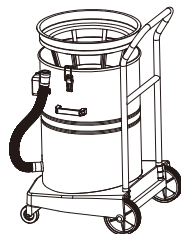

fig.1
1. Fix the fittings according to the cleaning work. If it is a dust vacuuming, the cloth filter should be fixed; if it is a wet work, the cloth filter should be removed. (fig.1)